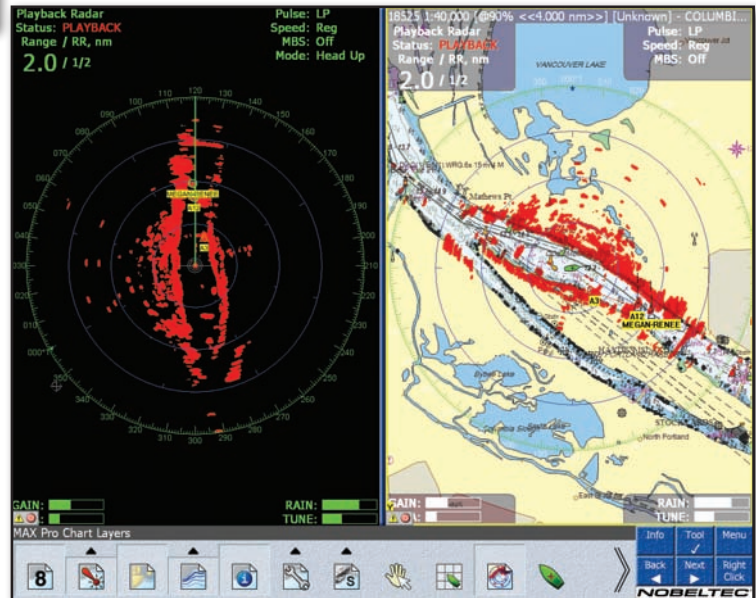

Figure 20.3 - Radar Overlay in Nobeltec Navigation Software
The InSight Radar window pane (see Figure 20.3) is used to view radar images within Nobeltec Navigation Software. This window pane can be resized and moved in PlanView mode and laid out in various configurations using the View Manager in NavView. The InSight Radar window pane contains a broad array of radar-specific features and controls.
- a. Click on the **InSight Radar Window Pane** ToolBar button. If your radar unit (and IR2-BB if applicable) is turned on and properly connected to the computer, the InSight Radar window pane automatically displays a radar image similar to that in Figure 20.3.